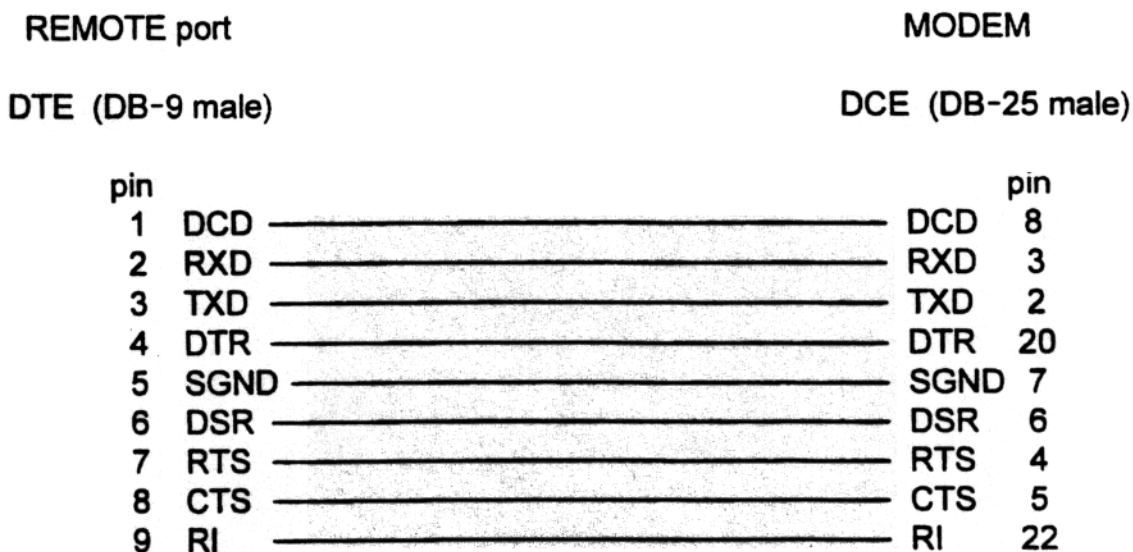

Figure 5-3. REMOTE Port Cable Wiring (9-pin to 25-pin)
- Connect the modem to the REMOTE port using a cable with wiring similar to that depicted in Figure 5-3.